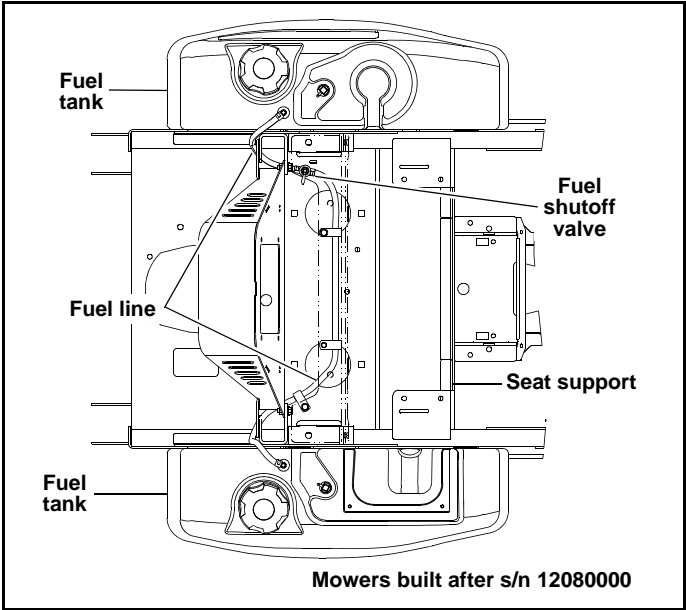

Figure 5-6
**On mowers produced after s/n 12080000** the fuel hose is connected to the rear port on the fuel tank. It connects the fuel tank to the fuel shutoff valve. Figure 5-6